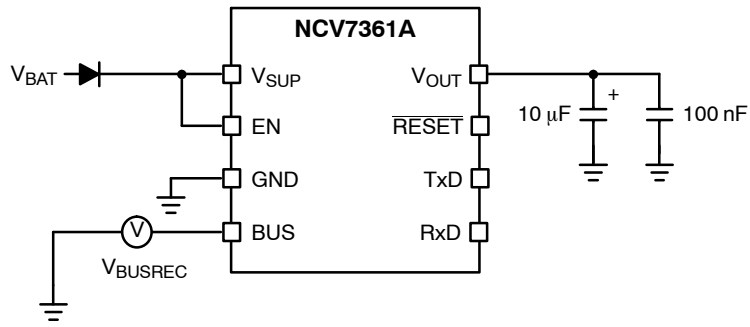

Figure 7. Test Circuit for Bus Voltage “Recessive” ( $V_{BUSREC}$ )
7. See Figures 7, 8, and 9 for test setup.